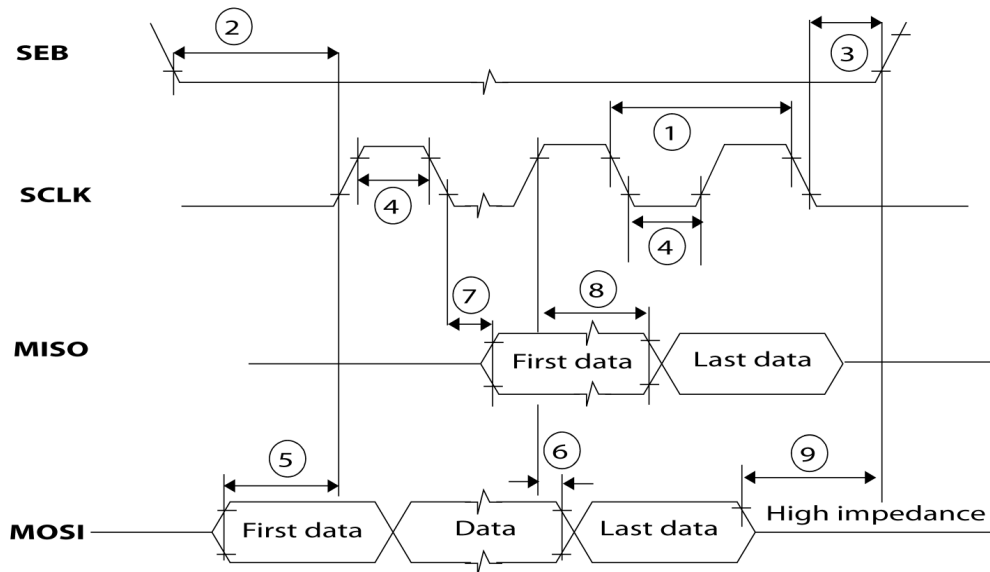

Figure 7. Typical SPI timing chart
SPI timings are described in Table 7 and illustrated in Figure 7. The SPI timing diagram, with the temperature and supply voltage conditions described in this document, and a maximum load capacitance, CL = 20 pF.
6. The numbers under the Notes heading refer to the corresponding numbers in Figure 7.